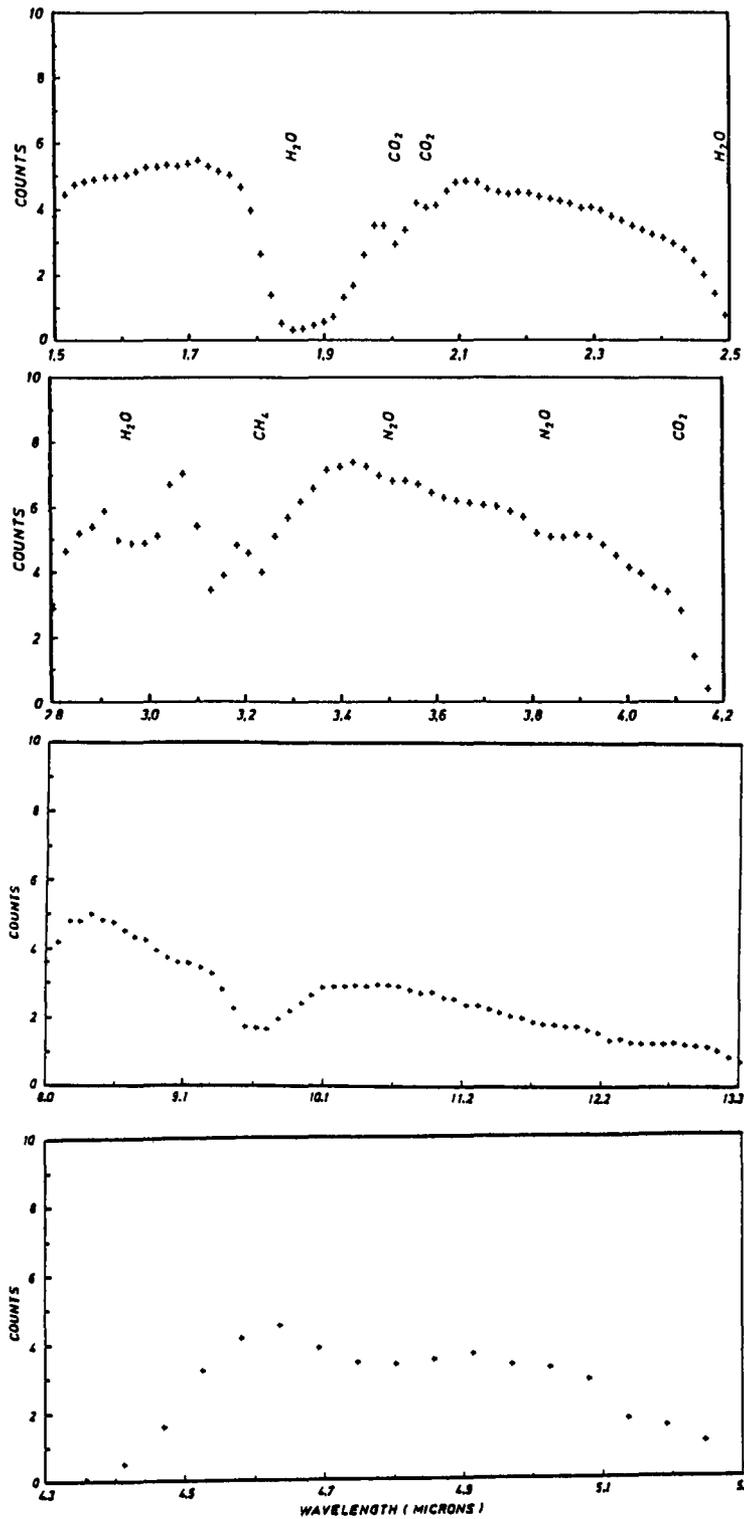

Figure 8.1: Typical standard star spectra for the four CVFs
e.g. LCVF,2,2.6,3.0,15 means that CVF2 will move automatically and stop at 15 equally spaced positions between $2.6\ \mu$ and $3.0\ \mu$. Pressing START moves the CVF to the starting wavelength. A second START will initiate the automatic sequence. The time spent at each position is determined by the requested IT,CYCL,DELAY and PAUSE as in photometry. *Do not forget to take into account the atmospheric transmission when setting your CVFs.* Fig. 8.1 shows typical standard star measurements for the four CVF ranges.